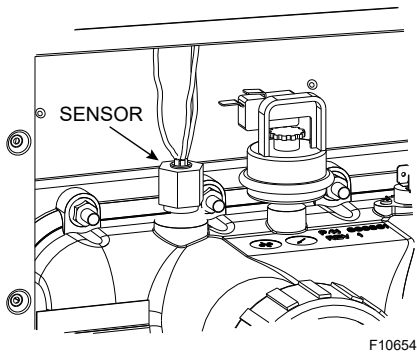

Figure 35. Digital Temperature Sensor Location
- Digital Models:** Remove the thermostat temperature sensor by loosening the compression fitting nut. Re-route the sensor to left-side of the heater. See **Figure 35**.
- Remove (12) nuts holding the inlet/outlet and return headers to the tube sheets. Clean off tube sheet area where the gasket seats. Also clean off the header and the gasket. Apply a non-petroleum-based lubricant to the gasket such as Aqualube. Re-attach the headers to the opposite sides, making sure they are installed in an upright position. Do not over-tighten. Torque should not exceed 7 ft/lb. See **Figure 35**.